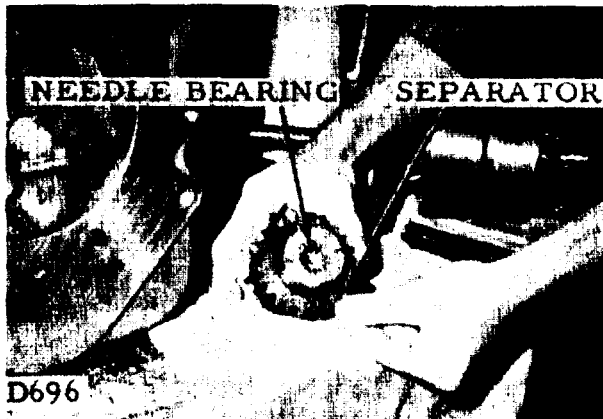

FIGURE 7-39.
a. Install the needle bearings in two rows of 16 and install the three spacers. One spacer goes between the two rows of bearings and one on each side (see figure 7-39).